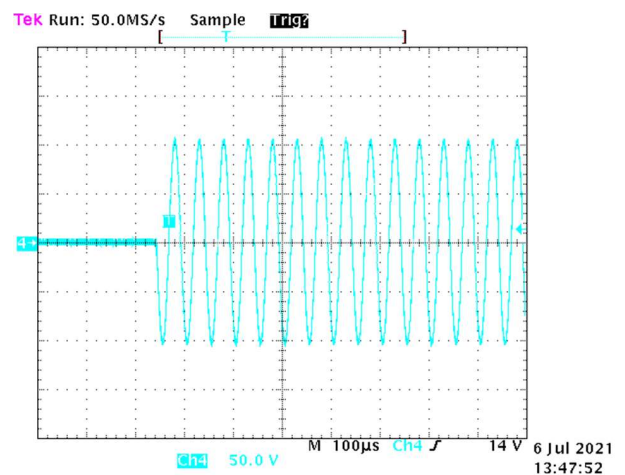

Figure 2
5. Verify that playback of the second segment matches Figure 2, in which the sine wave output starts at 0V but immediately goes negative (phase shift of 180°).
- a. If the output is dissimilar to figure 2 in terms of waveform start value, the device will fail the RPFT.